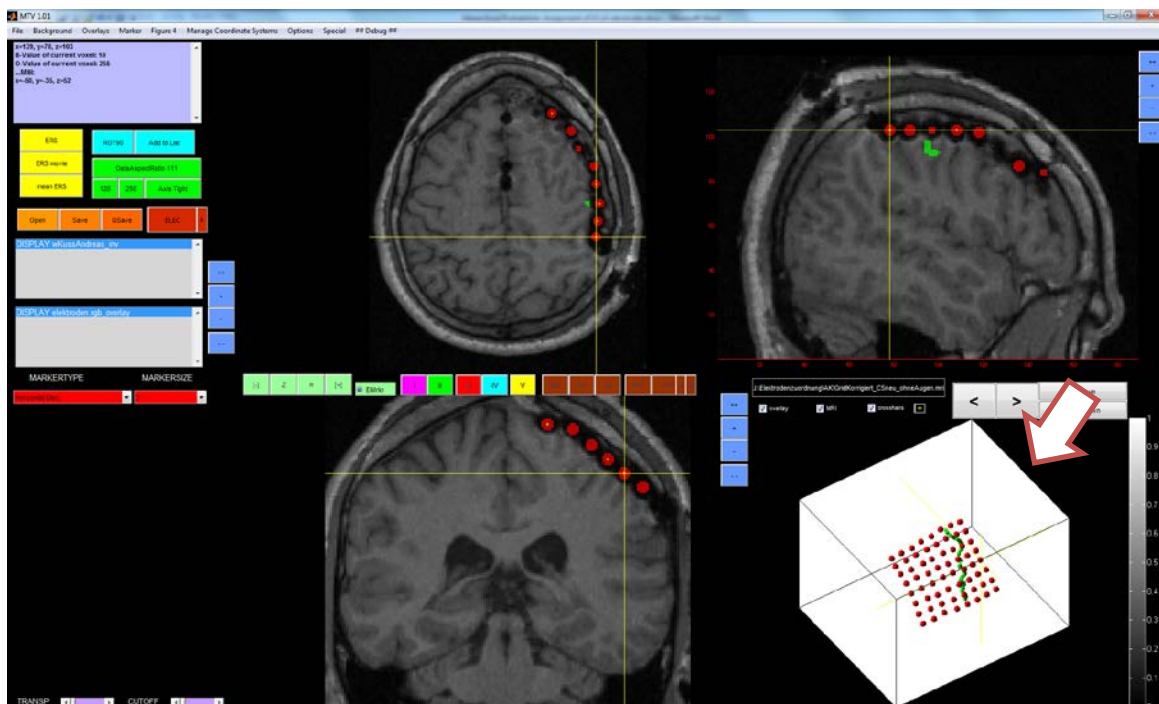

Figure 11: MTV screenshot of electrode markers and 3d view of red and green marker (arrow)
- For an overview over markers present markers, use *Marker → Show Red and Green Markers in 3D*. An overview then appears in the lower right panel (see fig. 11). It can be rotated using *Marker → Rotate 3D ON* (Attention! Do not click in other panels while being in “rotate on”-mode! Before continue marking, use *Marker → Rotate 3D OFF*)